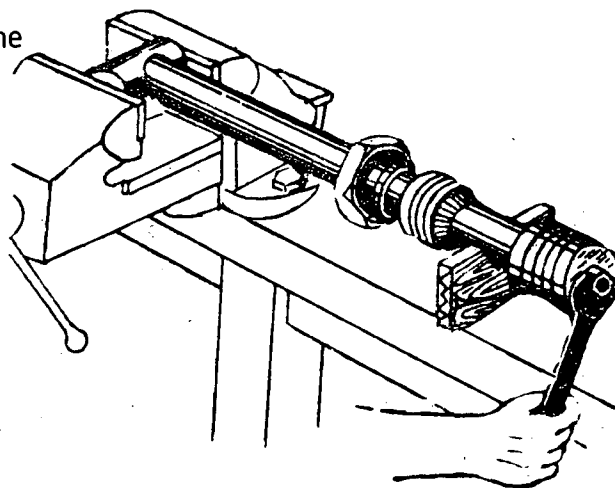

Fig. 5
- f) Install the nut and secure it (Fig. 5).